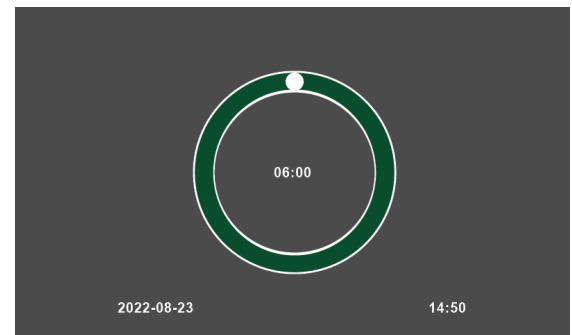

Figure 19. Measurement Timer screen
- The Labmaster LUCIA™ Vet Analyzer will automatically proceed to the measurement stage. The tray will move in and the Measurement Timer screen in Figure 19 will appear.